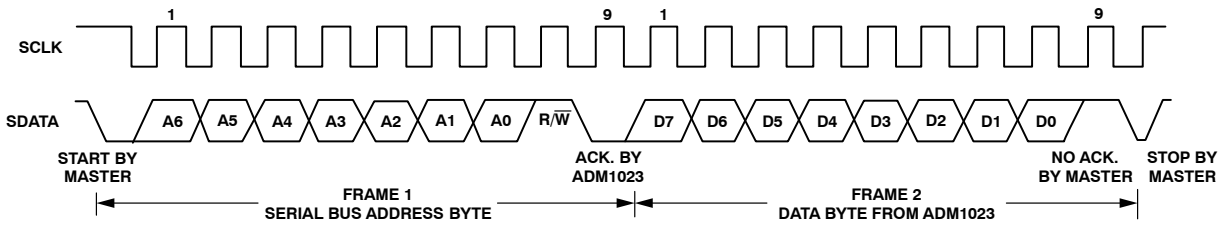

Figure 17. Reading Data from a Previously Selected Register
1. If the ADM1023's address pointer register value is unknown or not the desired value, it is necessary to set it to the correct value before data can be read from the desired data register. This is done by performing a write to the ADM1023 as before, but only the data byte containing the register read address is sent, as data is not to be written to the register. This is shown in Figure 16. A read operation is then performed consisting of the serial bus address,  $\overline{R/W}$  bit set to 1, followed by the data byte read from the data register. This is shown in Figure 17.